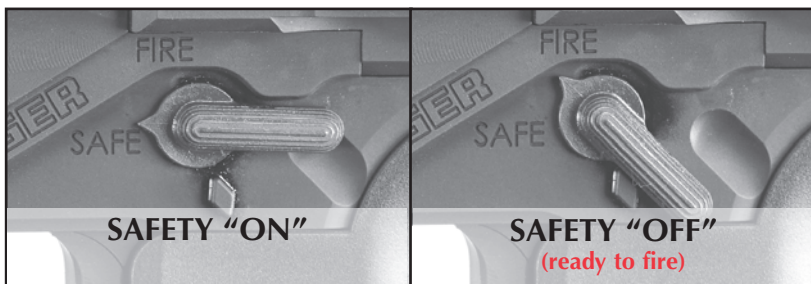

Figure 4
The manual safety mechanism on the **RUGER PRECISION RIFLE®** is located on the left side of the lower receiver rearward of the trigger. The safety selector switch can be moved from the “FIRE” position to the “SAFE” position only when the firing pin is cocked. (Fully raising the bolt handle cocks the firing pin.) The safety selector switch is “on” when it is in a fully horizontal position pointing to the word “SAFE.” (See Figure 4, p. 12.) When the safety is on “SAFE,” it blocks the trigger. The “FIRE” position is reached by rotating the lever towards a vertical position. The lever will stop when the pointer reaches the word “FIRE.”
2. Position the safety selector switch in the “SAFE” position (see Figure 4, p. 12).
10. Position the safety selector switch in the “SAFE” position (see Figure 4, p. 11). Note that cocking the firing pin by lifting the bolt handle is required to allow the rifle to enter the “SAFE” mode.